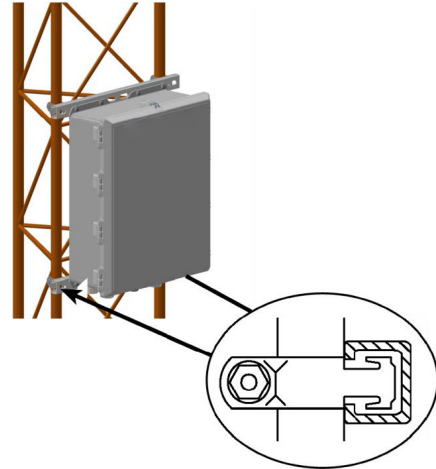

Figure 6. Secure Bottom Unistrut to Tower Leg
5. Secure the lower Unistrut to the tower legs using the mounting hardware provided (Figure 6).